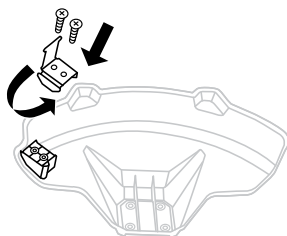

Fig. 6B
4. Re-assemble both screws in the blade (Fig. 6B). Ensure all four bolts are securely tightened.